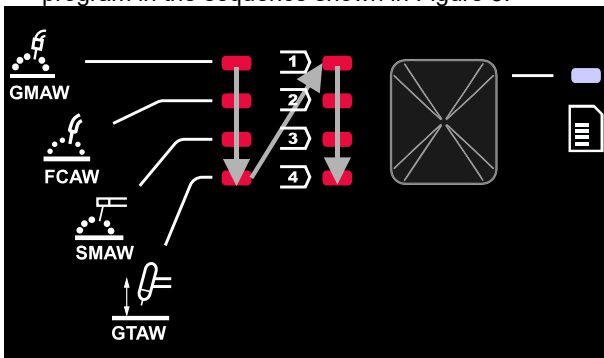

Figure 5
- Again, press the left button [27] the welding programs indicator (28 or 29) will pass to the next program in the sequence shown in Figure 5.